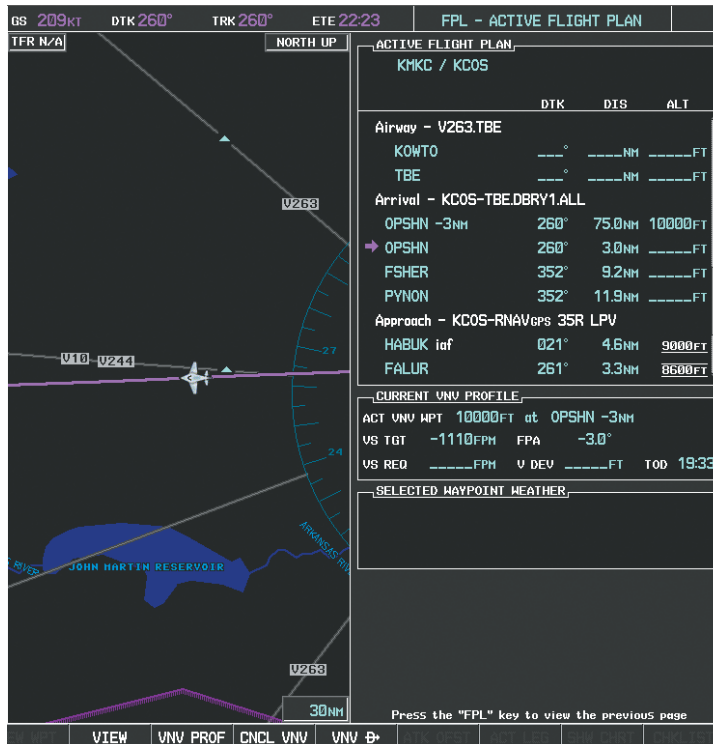

Figure 5-135 Loaded Approach
- i) With 'LOAD?' highlighted, again press the ENT Key. The selected approach is added to the flight plan as seen in Figure 5-135.